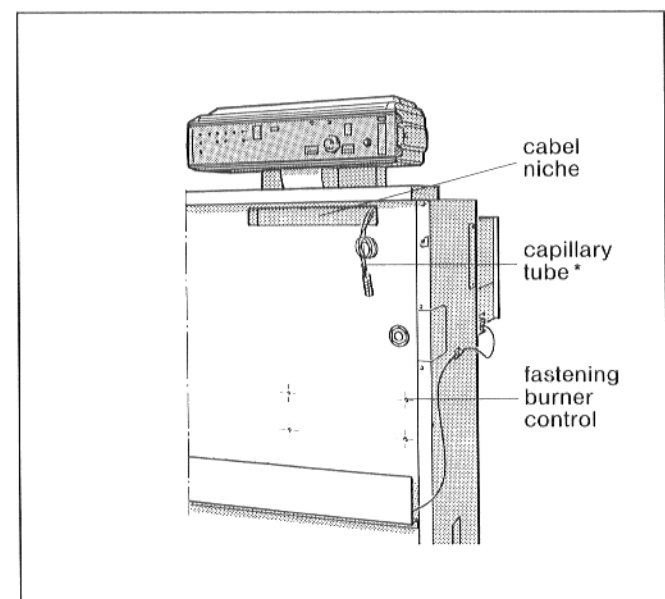

Fig. 36 – Front of boiler with front panel removed
- Lay the capillary tube for the temperature sensor and, for Ecomatic control, the boiler water temperature sensor lead through the opening in the front boiler hood from the cable niche on the front of the boiler (see Fig. 36).
- * – thermostat (TR)
- Mount the burner control with 4 self-tapping screws on the separating panel (see Figs. 36/38).